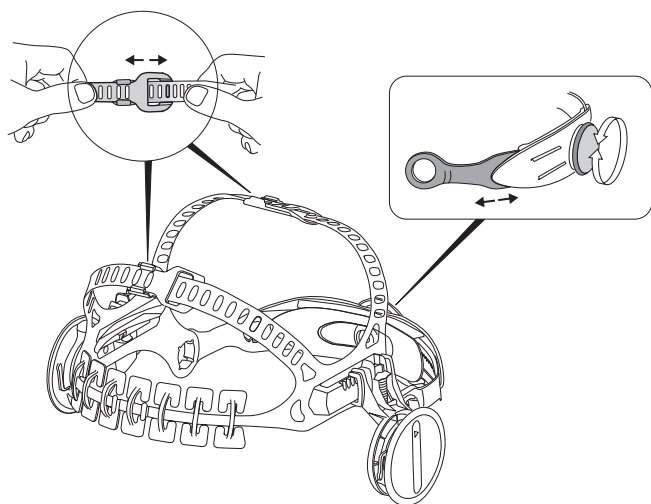
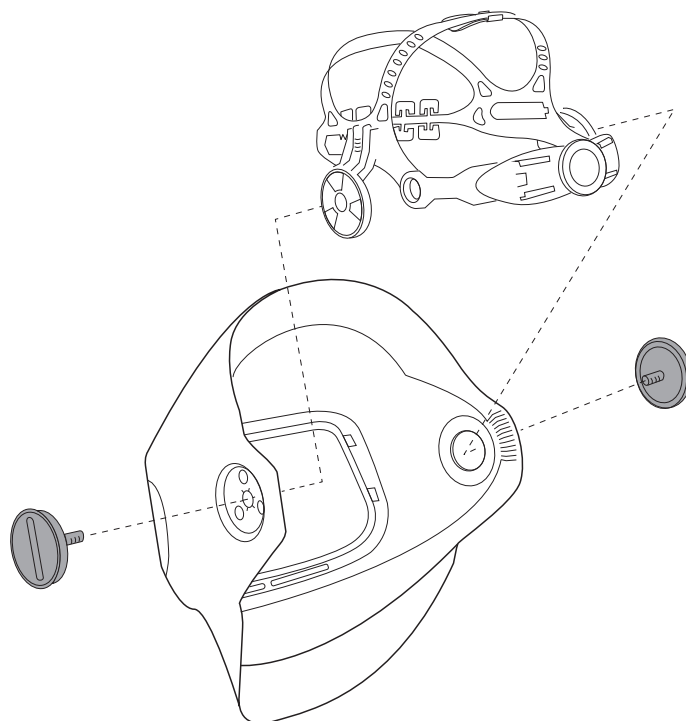

Fig. 3a
Fig. 3b
- Turn the ratchet knob at the back of the suspension clockwise until the suspension feels snug but comfortable (Fig. 3a). Turn counterclockwise to loosen, if needed. The suspension fits head sizes from 50-64 cm (US hat sizes 6 3/8 to 8). Adjust the top parts of the suspension for added comfort (Fig. 3a). To make initial adjustment of the head suspension easier (and also for replacement) it may be removed from the welding helmet (Fig. 3b).